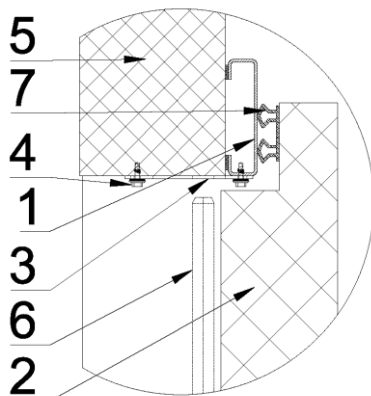

Figure 12.
1. Place the plates into position, using the screws of the adjusting (oval) holes, so that the attachment points are in the wall and on the overhead door frame (Figure 12);